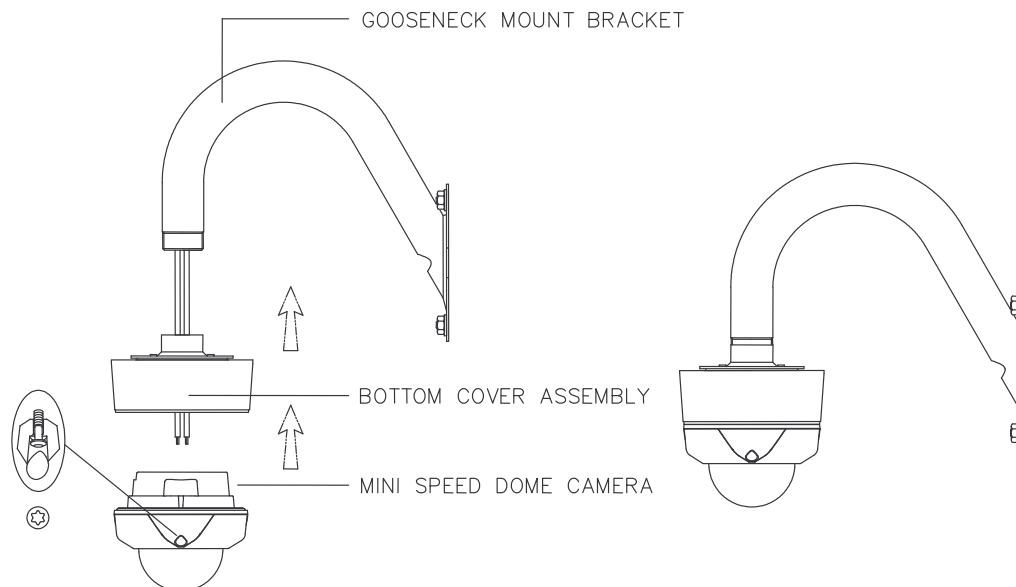

FIG.17
3. As shown on FIG.17, after assembling mini PTZ and bottom cover assembly, drive the gooseneck mount bracket and fix. (FIG.17)